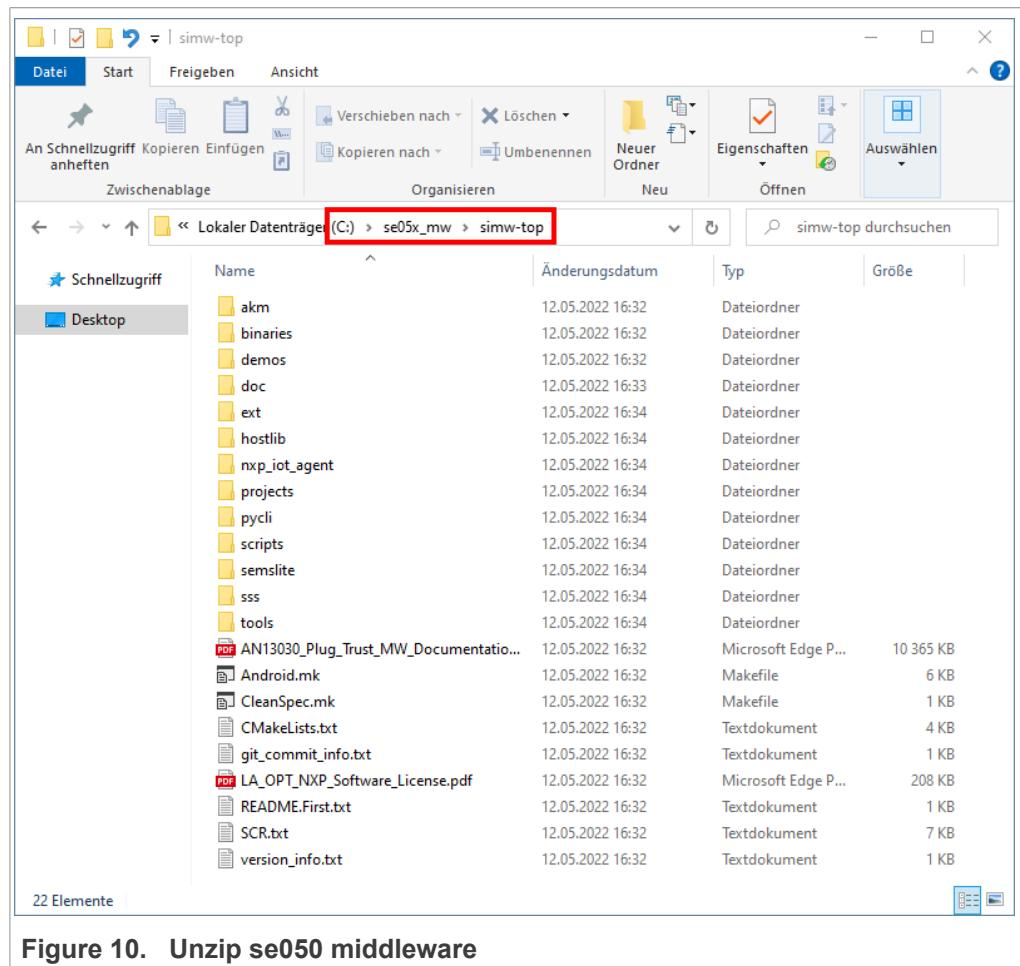

Figure 10. Unzip se050 middleware
3. Unzip the Plug & Trust middleware inside the `se05x_mw` folder. After unzipping, you will see a folder called `simw-top` created. The contents of the `simw-top` directory should look as shown in Figure 10: